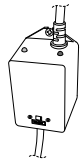

FIGURE 8
- Once power is activated you can check the ballast (12), Figure 8, to see if the CLEARRAY System is functioning. It has two LED indicator lights, the green indicating incoming power flow and the red indicating the system is properly working.